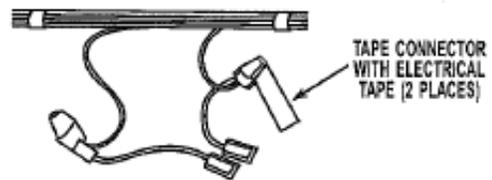

FIGURE 8
11. Apply tape supplied with kit to UL listed wire nuts. See figure 8.